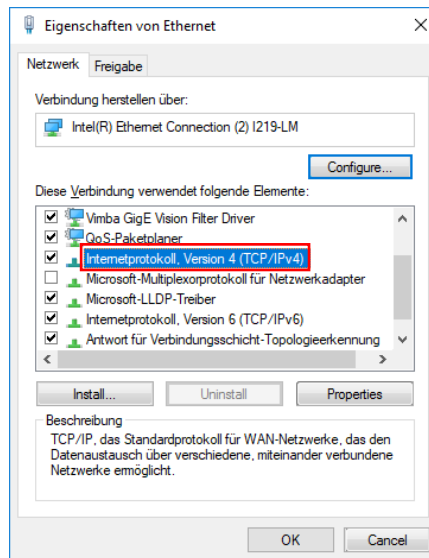

Figure 2-3
- Selecting Internet Protocol Version 4(TCP/IPv4) and clicking on Properties will open the Internet Protocol Version 4(TCP/IPv4) Properties (see Figure 2-3).